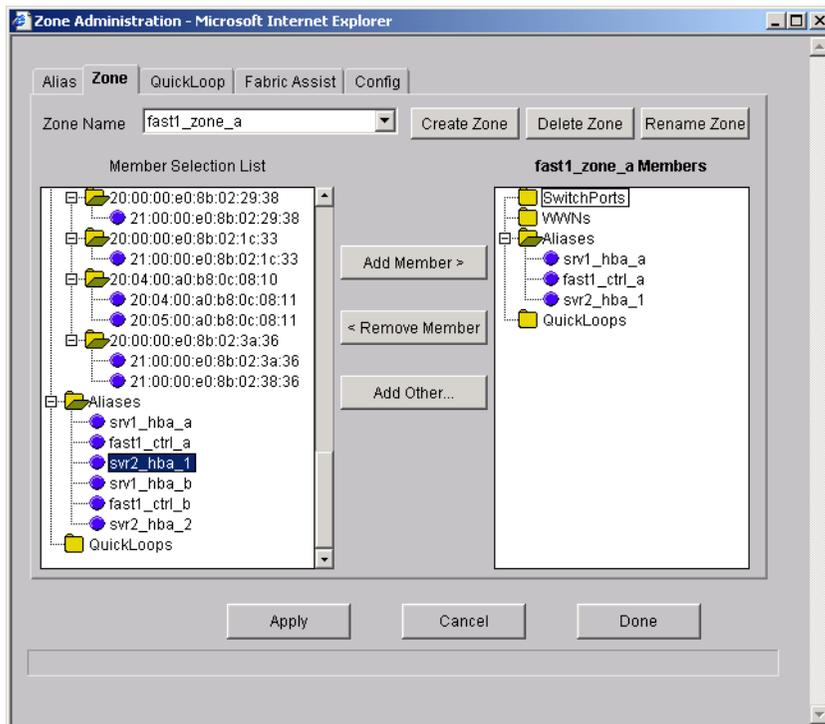

Figure A-10 Zone configuration
- Having created aliases, we now add these to our existing zones for Controller A and Controller B, as shown in Figure A-10: